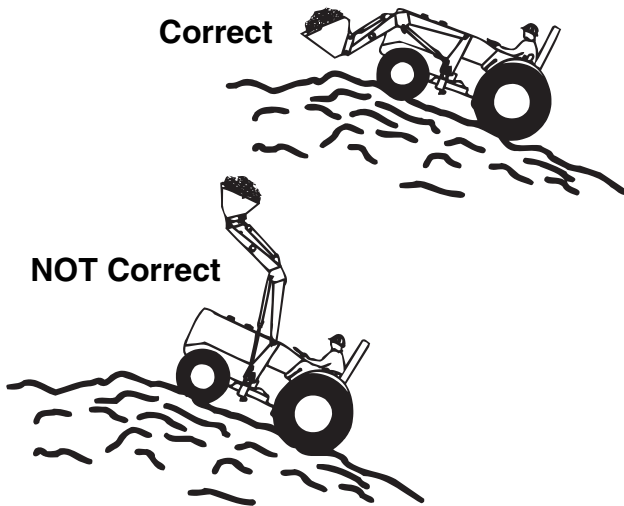

Figure 19
Use extreme care when operating the loader on a slope; keep the bucket as low as possible. This keeps the bucket and tractor center of gravity low and will provide maximum tractor stability. See Figure 19.
**IMPORTANT:** *When transporting the load, keep the bucket as low as possible to avoid tipping, in case a wheel drops in a rut. Refer to Figure 19.*